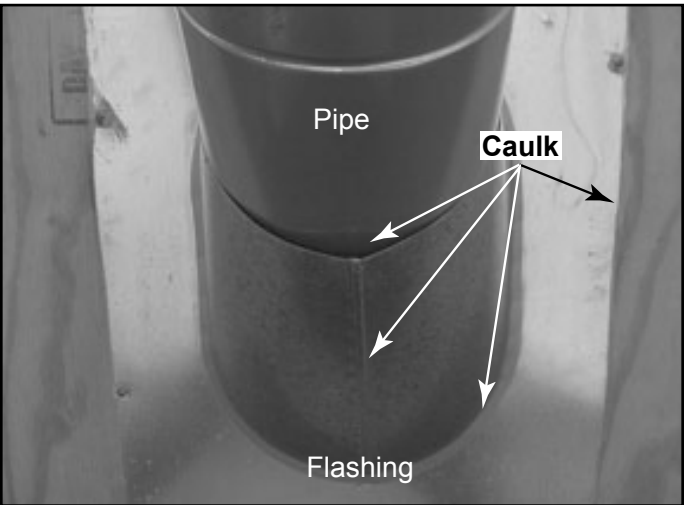

Figure 10.16
- Slide the roof flashing over the pipe sections extending through the roof as shown in Figure 10.16.
- Caulk the perimeter of the flashing where it contacts the roof surface. See Figure 10.16.